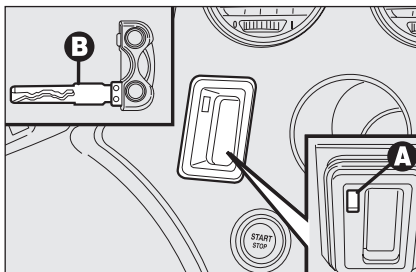

fig. 8
- ☐ fit the metal insert **B**-fig. 8 of the electronic key into the slot **A**;
**IMPORTANT** Only fit the metal insert **B** of the electronic key into slot **A**-fig. 8.